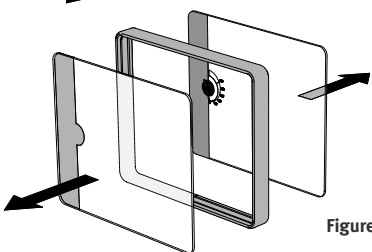

Figure 43
- Remove the viewing window glazing unit and the silicone gasket (Figure 43).